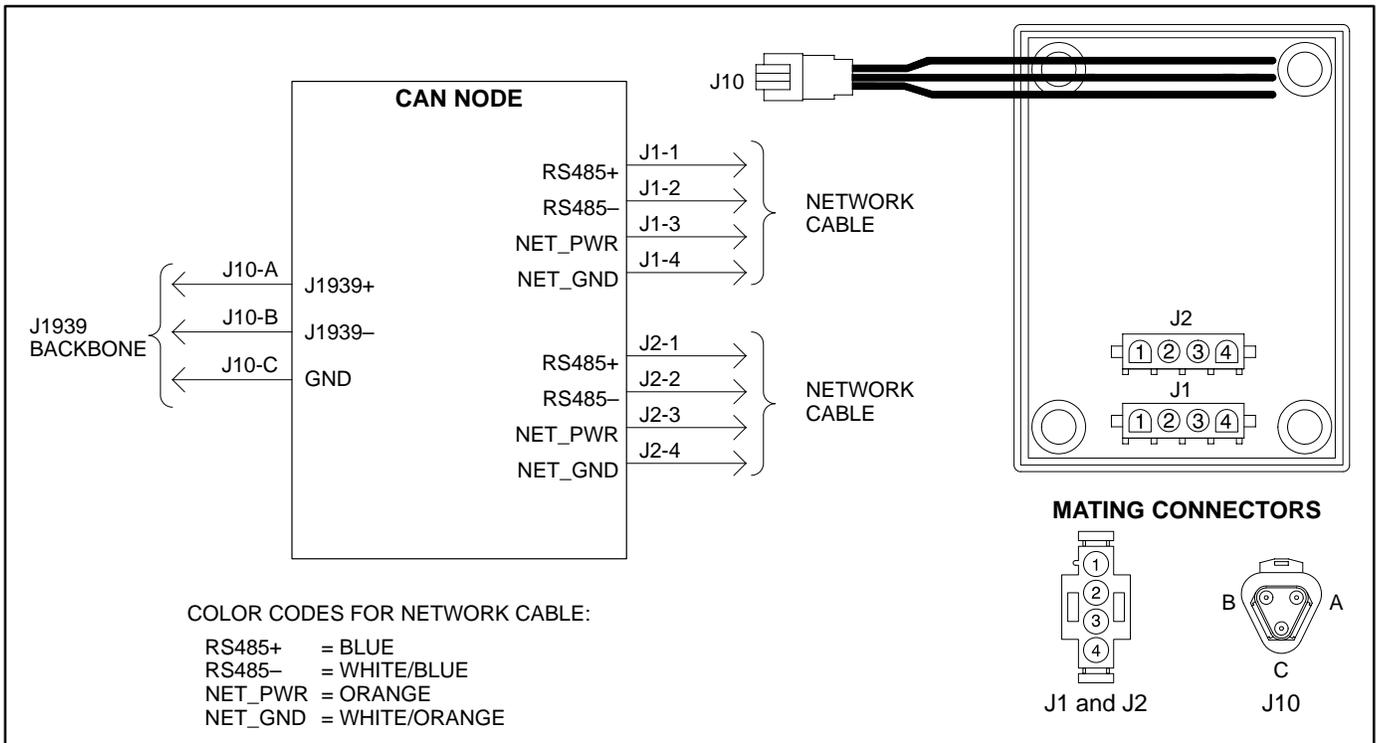

FIGURE 10-2. ENGINE INTERFACE NODE WIRING DIAGRAM
4. Refer to the wiring diagram (Figure 10-2) to route wires from the device to the CAN Node,